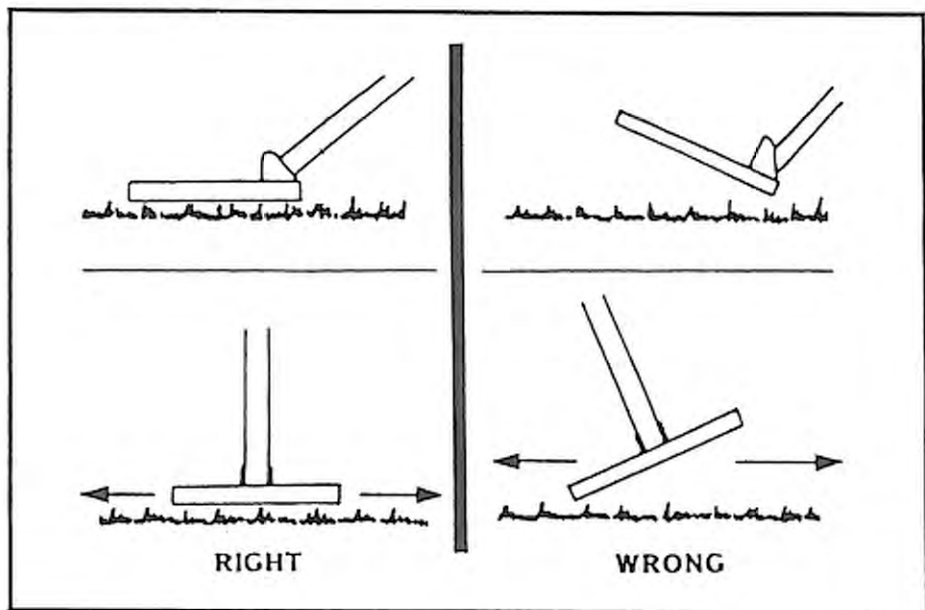

Figure 6. Keep the search coil parallel and close to the ground at all times.
6. Keep the coil parallel to the ground and as close to the ground as practical (see Figure 6). This is extremely important for maximum coverage and depth. If you're searching on a lawn, you may set the coil right on the grass and lightly "scrub" it.